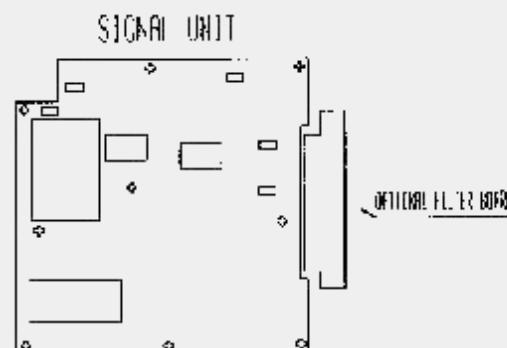

FIGURE 1
**Note:** Refer to figure 1 for the next steps.